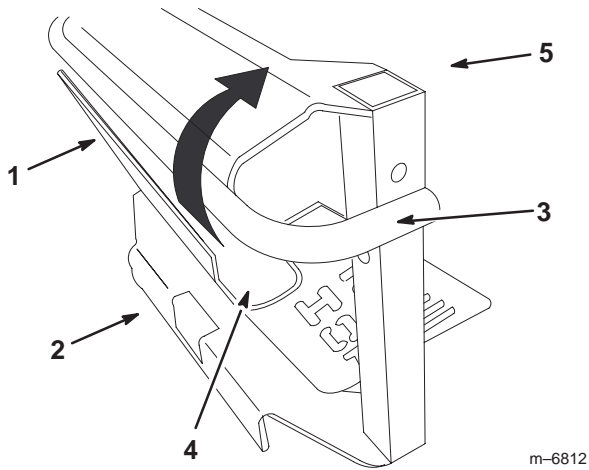

Figure 5
- At an angle, insert the top of the heat shield under the bar of the bagger bracket. Position the bagger bar as far as possible into the heat shield notches (Fig. 5).